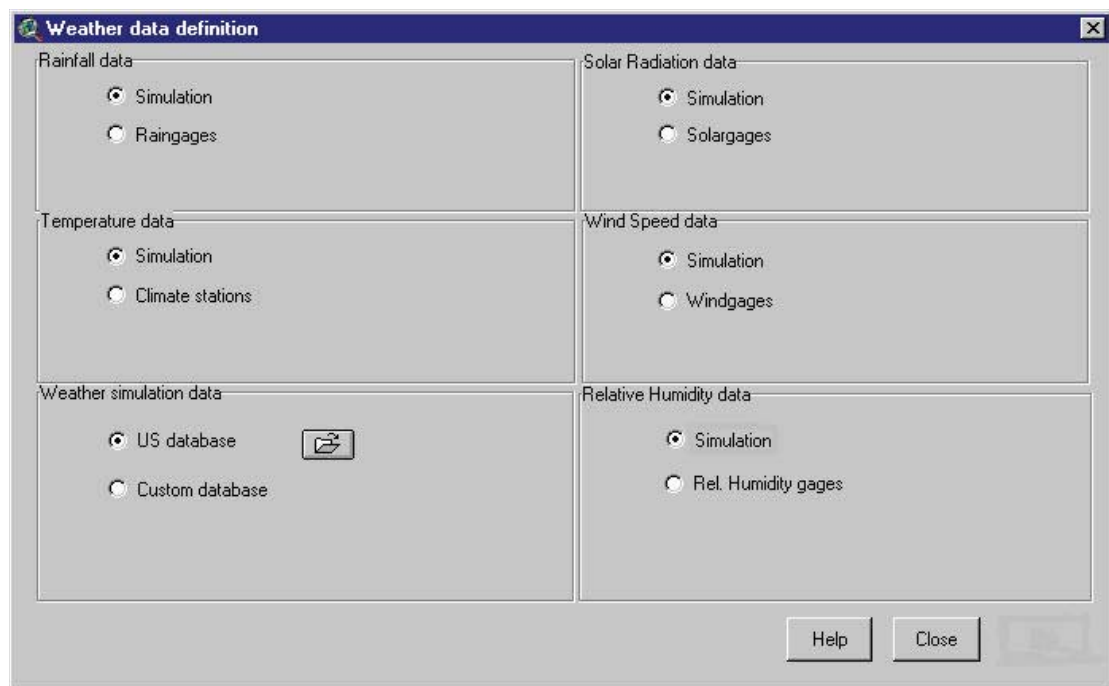

Figure 7.1
1. Select **Weather Stations** from the **Input** menu on the *SWAT View*. The *Weather Data Definition* dialog is displayed (Figure 7.1).